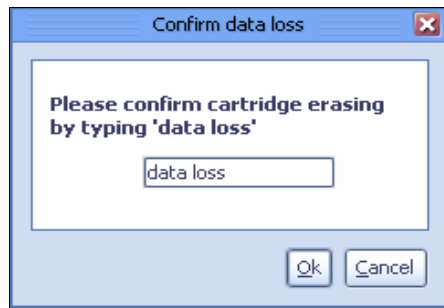

Figure 10-42 Delete cartridges: Confirm data loss window
5. Click **Yes**. The Data Loss Confirmation window opens. In the Confirm data loss window, enter “data loss” into the field and click **OK**. A confirmation message box opens (Figure 10-42).